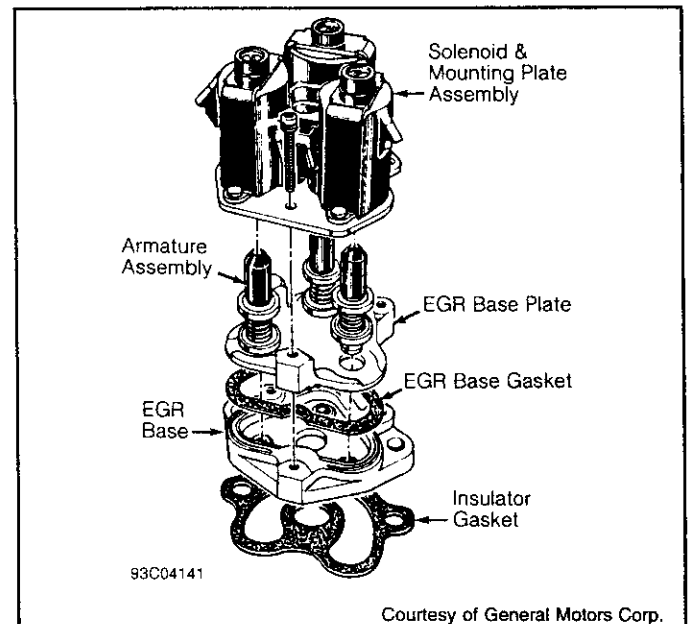

Fig. 15: Typical Digital EGR Valve
**Digital EGR Valve** – The digital EGR valve operates independently of engine manifold vacuum. This valve controls EGR flow through 3 orifices. These 3 orifices are opened and closed by electric solenoids. The solenoids are, in turn, controlled by Electronic Control Module (ECM). When a solenoid is energized, armature with attached shaft and swivel pintle is lifted, opening the orifice. See Fig. 15.